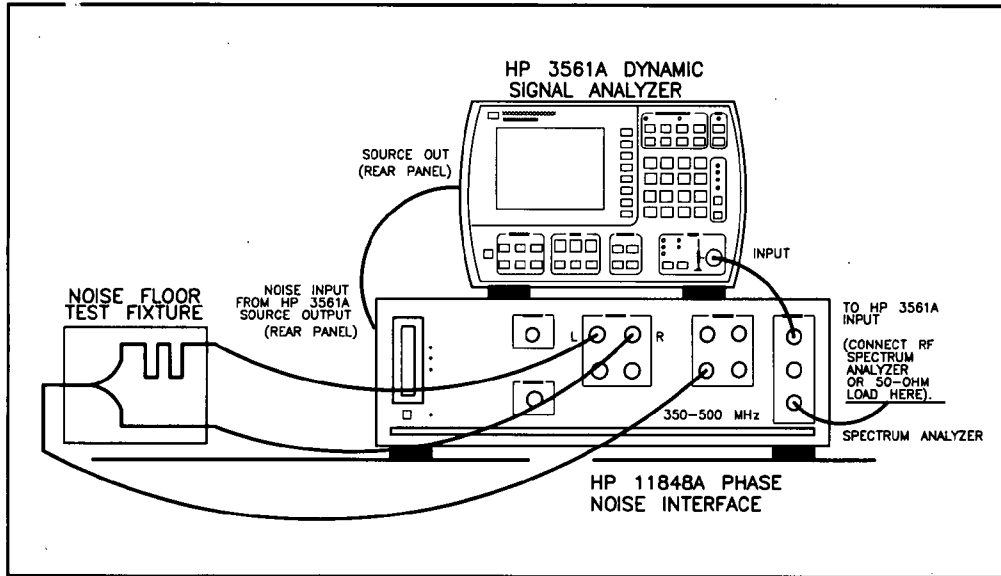

Figure 7. Noise Floor Test Setup
6. Connect the instruments as shown on the on-screen connection diagram and also Figure 7.